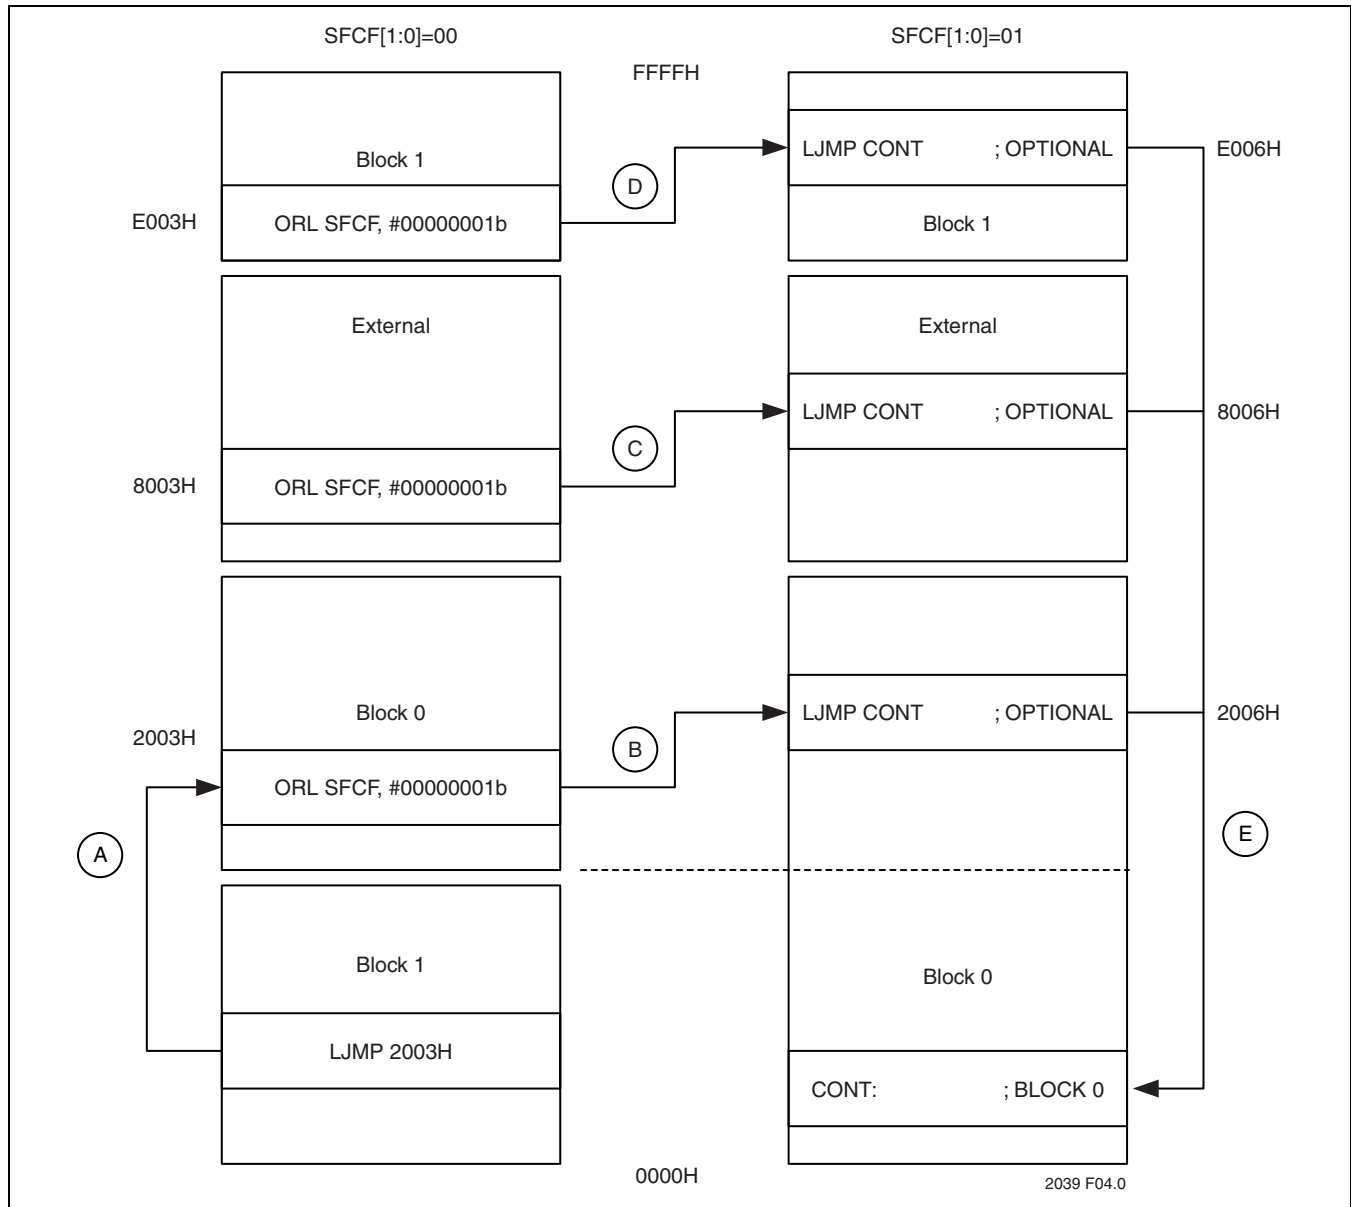

FIGURE 2-4: Switching Off Block 1 on the SST89E/V58RDx
If software reset is not used, then as Figure 2-4 demonstrates, a jump instruction (A) must be used to move the program counter above 2000H. Then the BSEL bit may be set to switch Block 1 overlay off. The subsequent instructions (E) may optionally jump back to Block 1 that is now visible.